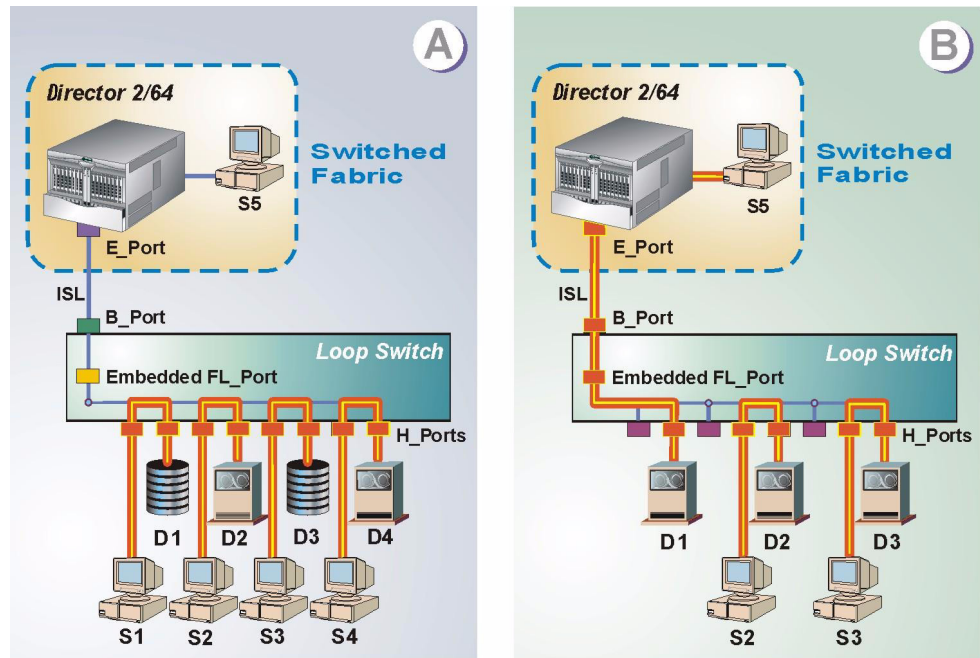

Figure 22: Switched mode operation
Switched mode operation is illustrated in Figure 22. Part (A) shows four device transmission pairs using all eight H_Ports (server **S₁** to device **D₁**, server **S₂** to device **D₂**, server **S₃** to device **D₃**, and server **S₄** to device **D₄**). All four transmissions operate independently at 1.0625 Gbps. Subsequently, part (B) shows two device transmission pairs using four H_Ports (server **S₂** to device **D₂** and server **S₃** to device **D₃**), and public device **D₁** connected to fabric-attached server **S₅**. All four transmissions operate at 1.0625 Gbps.